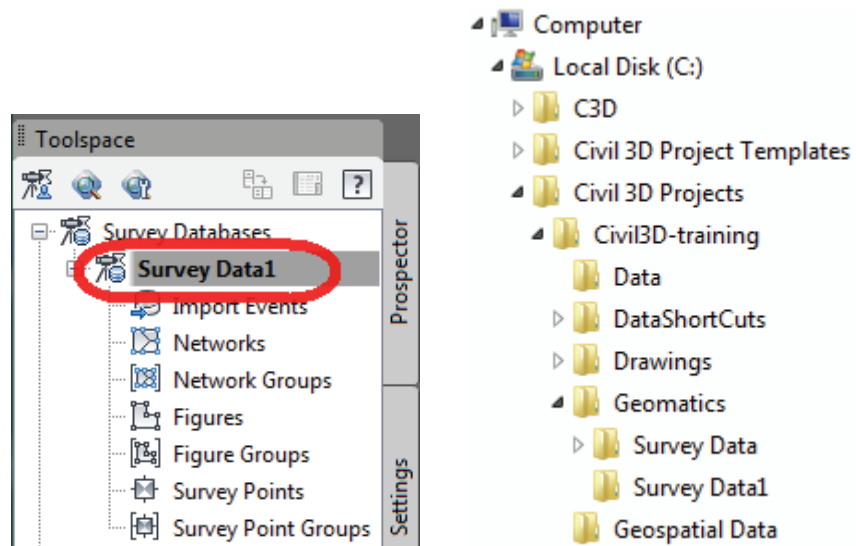

Figure 2–8
12. To edit the Survey Database settings, select **Survey Data1**, right-click, and select **Edit survey database settings...**, as shown in Figure 2–9.